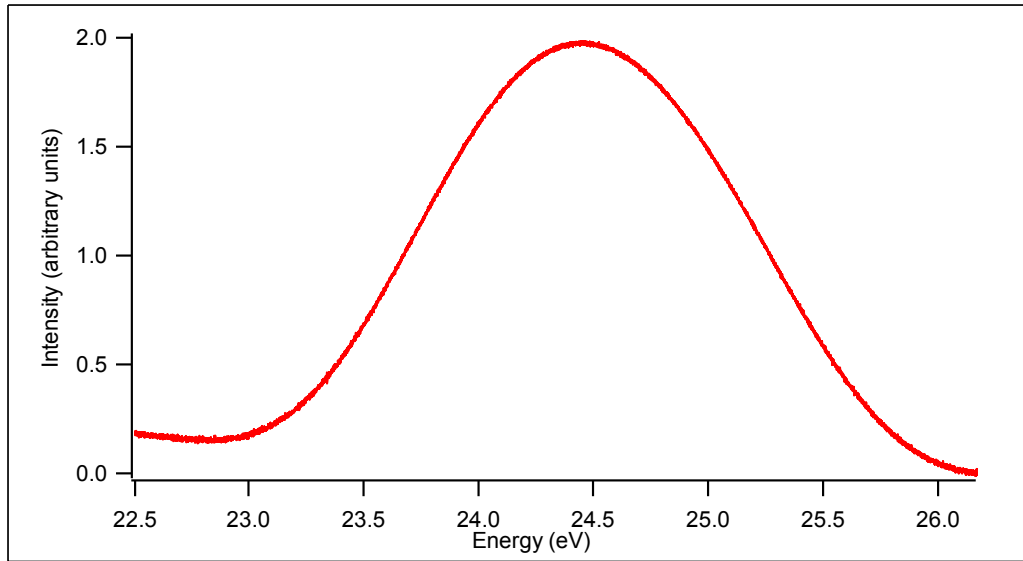
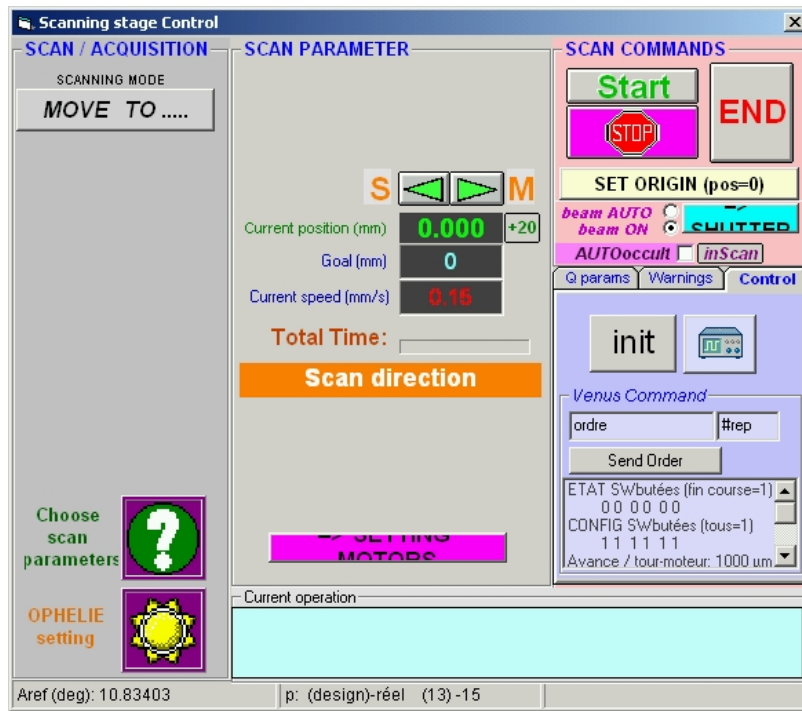
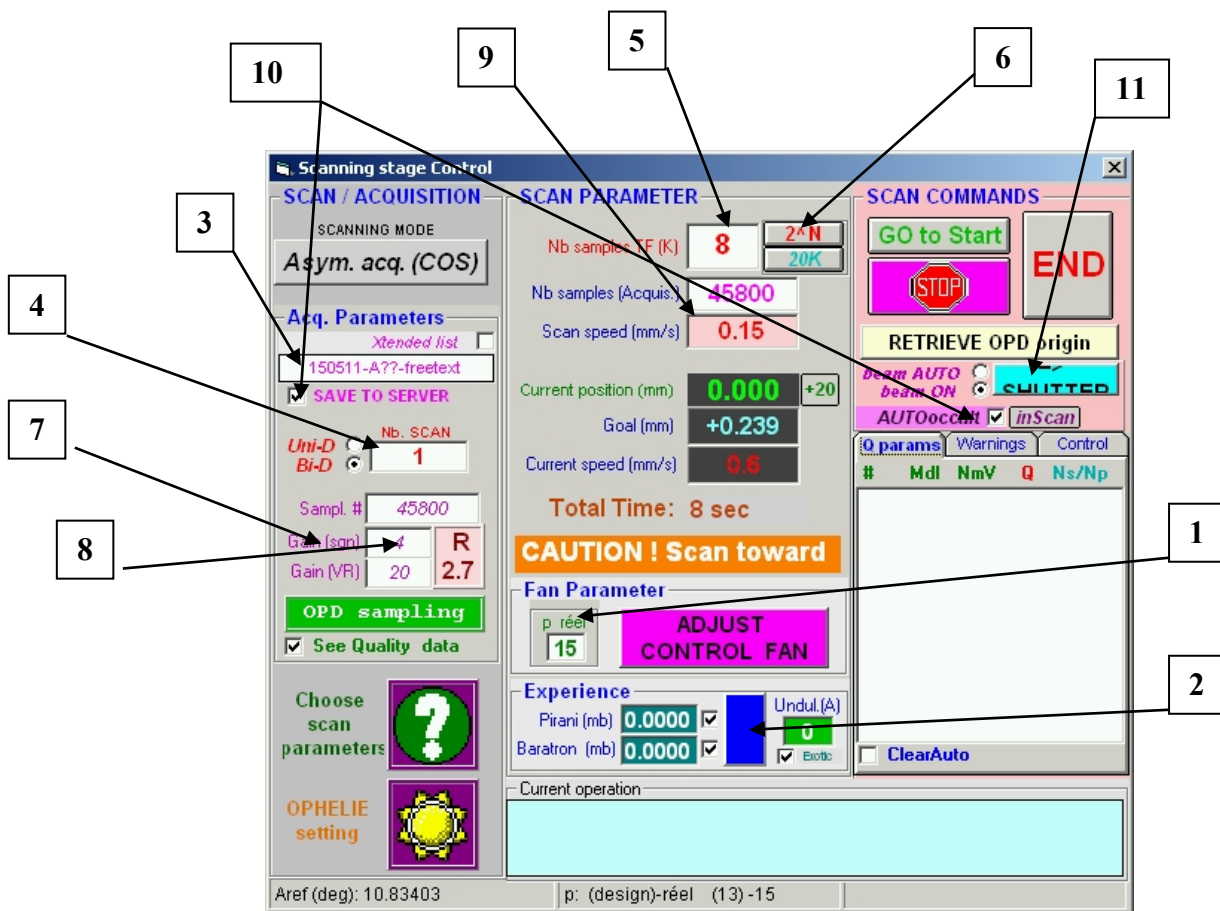
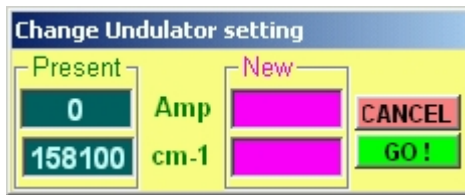

FIG.1
FIG.3
FIG.4
FIG.5
There are two different **control windows** (Fig 3 & 4). Basically, the first one allows only the control onto the translation stage. "Current position" is the position of the translation stage regarding the zero optical path difference position (near the 0 value). The speed of the movement can be set to any value typically in the range [0 - 0.5 mm/s], but the standard scanning speed is 150  $\mu\text{m/s}$ . So as to start a scan, one must click on the "**Move to....**" Button in order to shift to the second control window (fig 4). This second control panel is the main interface for setting the FTS.
- Synchrotron beam energy selection: Three currents (PS1, PS2, PS3) are necessary to fully adjust the undulator parameters (polarization state and working energy). The undulator white beam bandwidth which feeds the FTS is  $\Delta E/E \sim 6-7\%$ . An example of the undulator background continuum at 24 eV is shown in FIG 1. The FTS works more efficiently in the vertical polarization state, which means that the PS2 and PS3 currents must be kept to 0. See Table I for the PS1 Vs Energy FTS calibration data (which is slightly different from the monochromator branch calibration). In the vertical polarization mode, the FTS can cover the range 6.2 up to 30 eV. In order to work at lower energies (limit at  $\sim 4.1$  eV), the undulator must be set in an exotic polarization mode, working with PS1 and PS3 simultaneously. The undulator energy position is directly controlled by using the dedicated popup window that can be called pressing (Ctrl-Left Click) the button labeled **-2-** on figure 4. Select the new energy on the popup window (figure 5), and then press "GO".